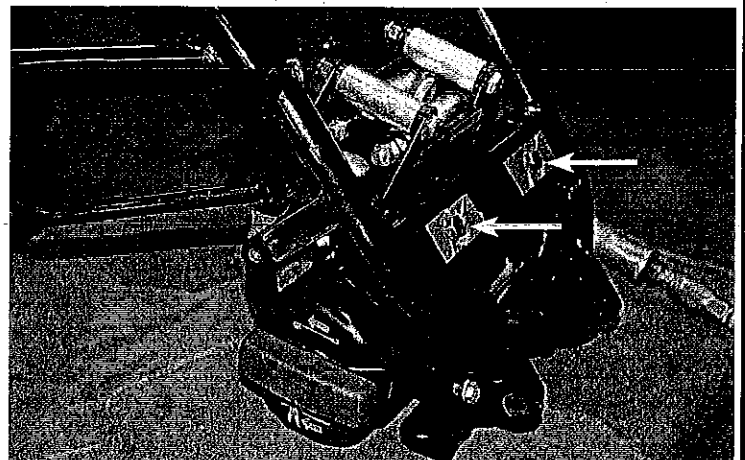

Figure 9
9. Attach winch assembly to brush guard, using two 8mm flange head bolts as shown in Figure 9.